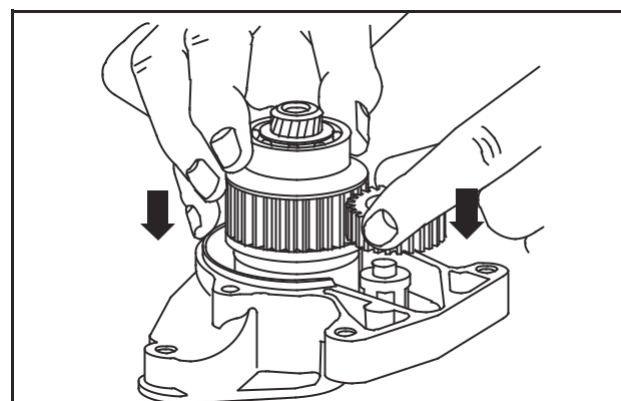

Fig. 59 – Assembling Drive Housing
3. Mesh drive gear with clutch gear. Install pinion and clutch assembly and drive gear into drive housing together, Fig. 59. Install return spring ball in clutch.